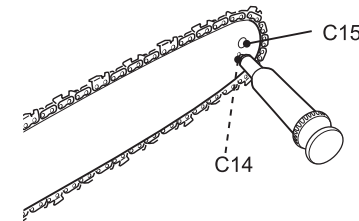

Fig. 37
1. Clean the sprocket wheel (15).
2. Using a disposable lube gun, insert the needle nose into the lubrication hole (Fig. 37, A) and inject grease until it appears at the outside edge of the sprocket (15) (Fig. 37).